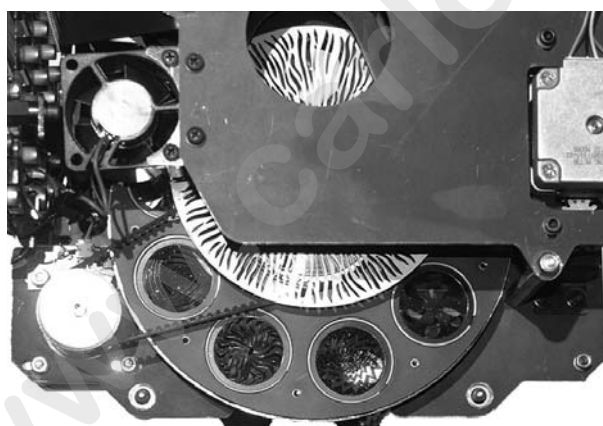

Fig.1
Dichro: After opening the fixture, locate the gobo to be replaced, press delicately downwards (Fig.1) until the spring, ring and the gobo come out, making sure they don't fall inside the fixture. Install the new gobo (3) as shown (Fig.2), followed by the ring (4) and the locking spring (5).